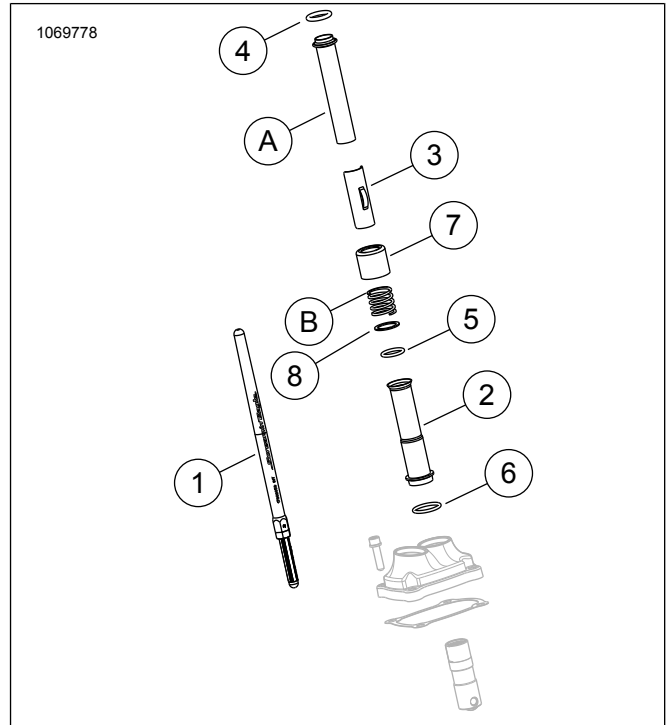
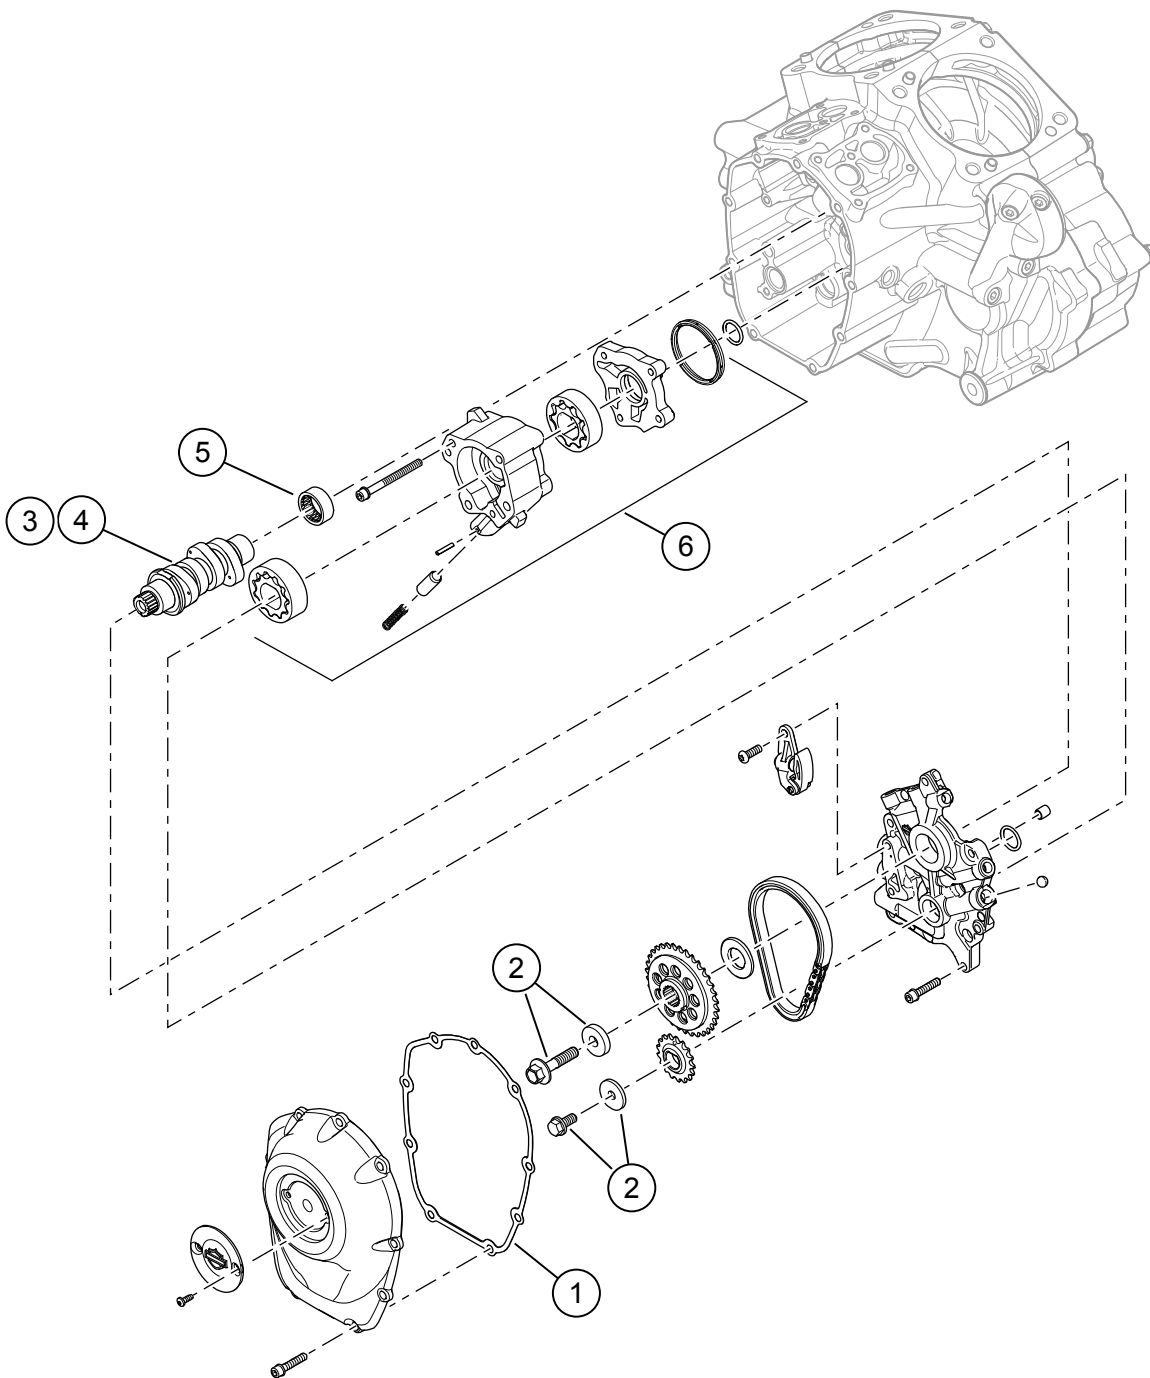

Figure 3. Service Parts
Figure 4. Service Parts: Screamin' Eagle Milwaukee-eight Stage 2 Kit
See Figure 3 to Figure 4, and Table 2 to Table 3.
1. See Figure 4. Install oil pump. Refer to ENGINE in service manual.